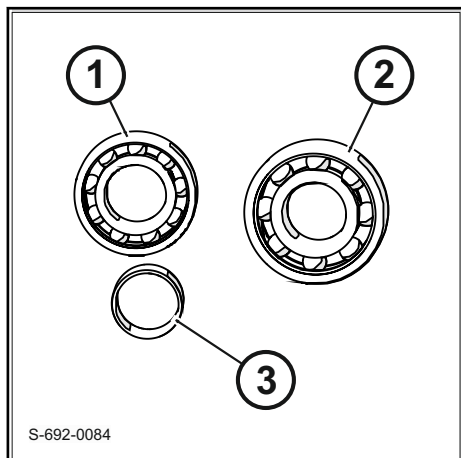

Fig. 81
1. Preheat the grooved ball bearing (1) ↘ Fig. 81, grooved ball bearing (2) and the inner ring (3).